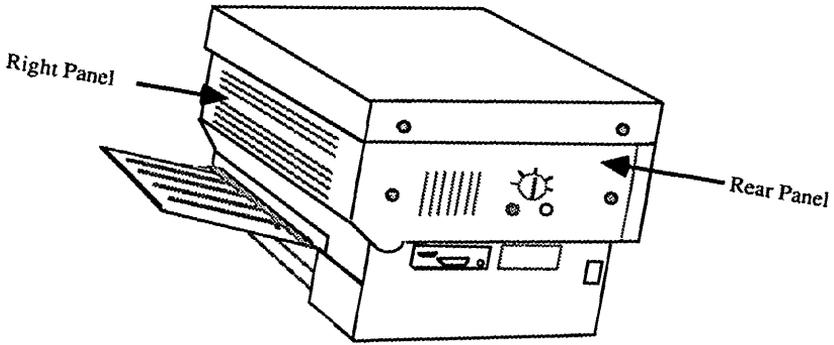

FIGURE 2-4: REAR VIEW
#### **C. Right Panel (See Figure 2-4, next page)**
**D. Rear Panel (See Figure 2-4)**